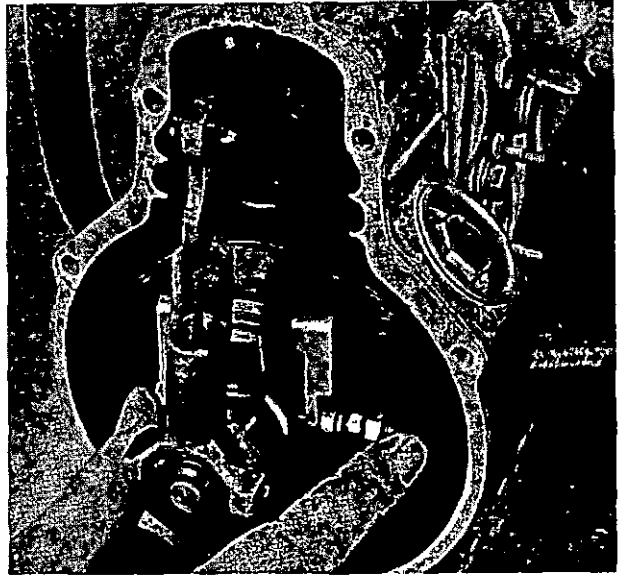

Fig. 56 Coupling bolt, floating lever and slider
5. Assemble the coupling bolt so that it has end float of 0.040 to 0.080 inch (1 to 2 mm.), tighten its two nuts together and bend their lockwasher over one flat of each. Mount the slider and floating lever and fit the link pin, together with its splitpin (fig. 56).